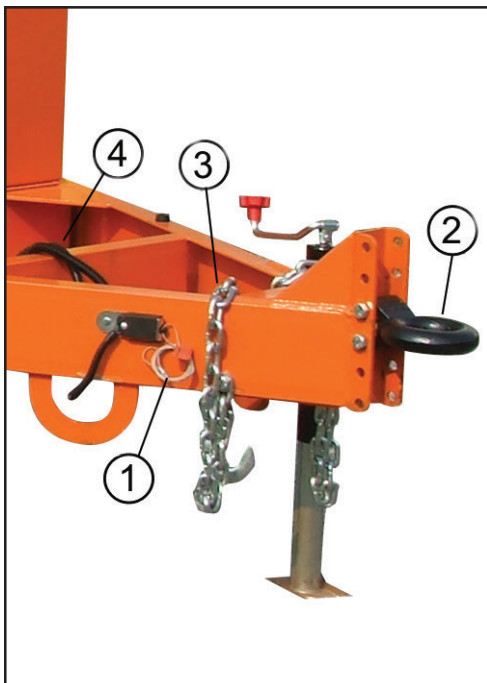

Figure 2-1
1. Attach the breakaway electric switch cable loop (1, Figure 2-1) around the ball at the rear of the towing vehicle. This switch will automatically engage the trailer's electric brakes should the trailer and towing vehicle separate.
2. Connect the pintel ring (2, Figure 2-1) of the towing tongue securely to the hitch on the towing vehicle.
3. Attach the safety chains (3, Figure 2-1) that come with the machine to an approved location on the towing vehicle.
4. Connect the 6-pin female electric coupling (4, Figure 2-1) on the trailer to the male coupling at the back of the towing vehicle. This provides electric current for the trailer's taillights and electric brakes, and for charging the trailer's battery.